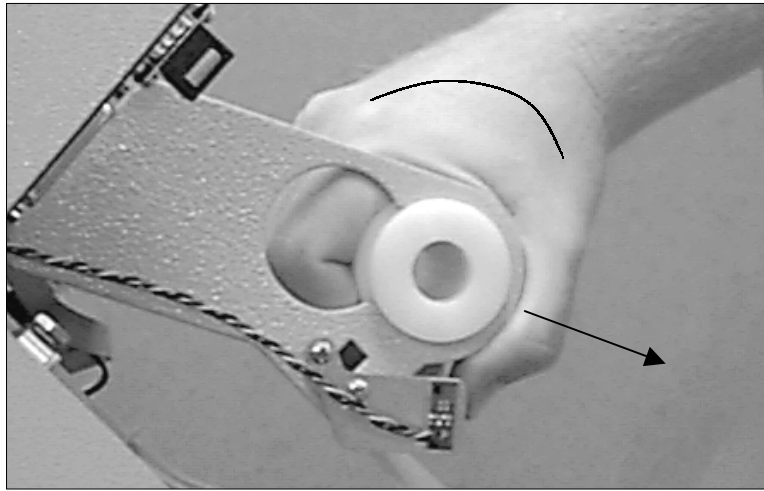
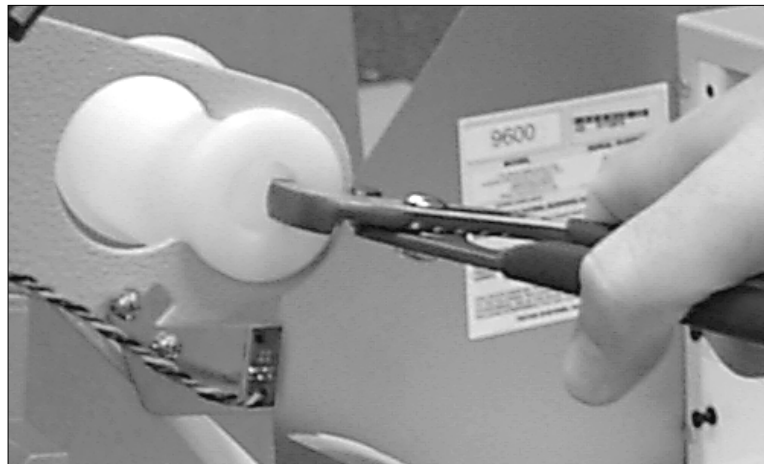

Figure 6
Figure 7
9. Replace the paper spindle without the Paper Roll (see fig. 6), insuring the paper spindle is pressed securely into the keyhole slot. It is possible that the textured coating on the Paper Bracket may be thick enough to prevent the paper spindle from seating easily in the keyhole slot, and this would affect the bracket's positioning. If this occurs, it may help to twist the spindle as it is pulled into the slot (see fig. 6). If there is any question as to whether the spindle is seated completely, use a pair of pliers to squeeze from the center of the spindle to the edge of the bracket (see fig. 7).